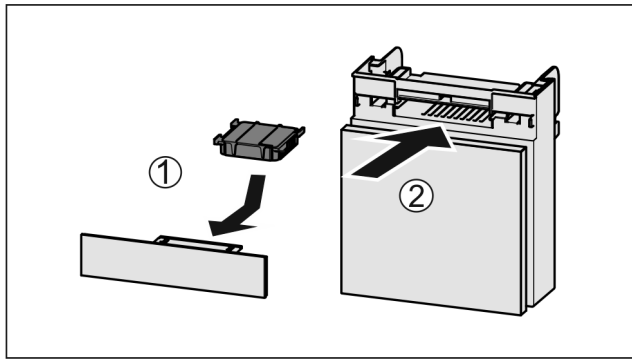

Fig. 167
- ▶ Insert the carbon filter as shown in the diagram Fig. 167 (1).
- ▶ Push the compartment in Fig. 167 (2).